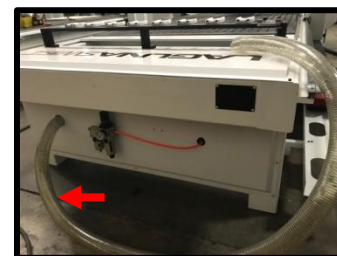

Figure 5
- Connect the table's vacuum hose to the inlet of the vacuum pump (figure 5).